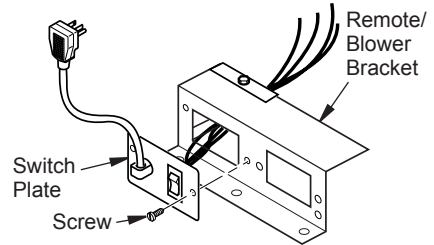
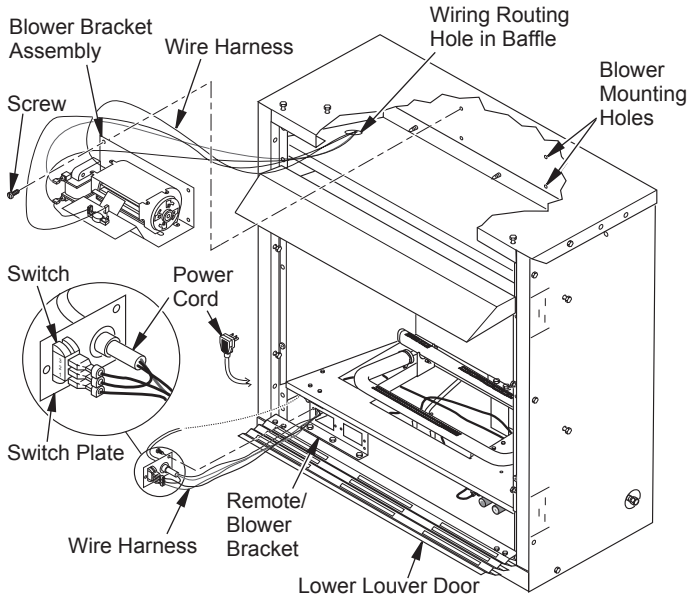

Figure 18 - Installing Switch Plate to Remote/Blower Bracket
Figure 16 - Installing Blower Bracket Assembly (Remote-Ready Unit Shown)
- Note the wire locations on back of AUTO/OFF/ON switch. The terminals on back of switch are numbered 1, 2, and 3. Carefully remove red wire from terminal 3 and blue wire from terminal 1. Black wire can remain on middle terminal 2 (see Figure 16, page 14).
- Carefully disconnect green and white wires at their insulated connectors (see Figure 16, page 14).
5. In top of the fireplace cabinet, locate the four mounting holes on the outer casing. Align these four holes with those on the blower bracket assembly. Attach blower bracket assembly to the outer casing with 4 #10 screws provided (see Figure 16).
7. Insert the 4 wire harnesses from behind the remote/blower bracket through hole in rear of bracket with bushing and through the left rectangular hole to front of fireplace (see Figure 16).
9. Install the switch plate on the remote/blower bracket with 2 #10 screws provided (see Figure 18). Route power cord out of the cabinet by inserting it through the bushing on the outer casing (see Figure 16). Plug fan kit into 120-Volt grounded power supply and test operation. **Note:** When switch is in the AUTO position, the fan will start after the fireplace has run for a few moments. The fan will continue to run for several moments after the fireplace has been turned off. When switch is in the ON position, the fan will run until turned to OFF.